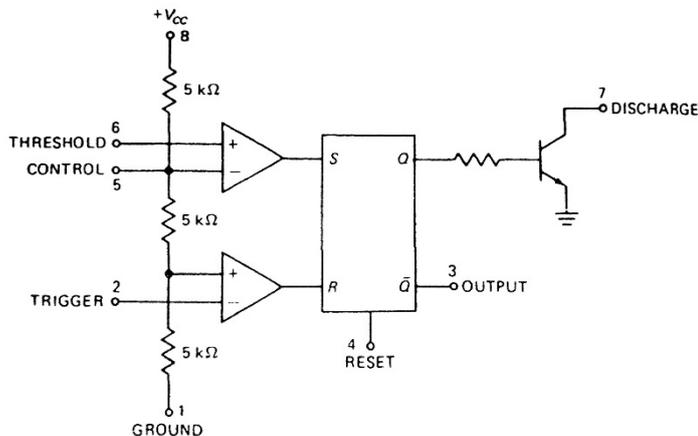

Figure 5.2. Block Diagram of 555 Timer
The NE555 timer introduced by Signetics is an 8-pin IC that can be connected to external components for either *astable* or *monostable* operation. Figure 5.2 shows a simplified block diagram. Notice the upper op-amp has a threshold input (pin 6) and a control input (pin 5). In most applications, the control input is not used, so that the control voltage equals $+2V_{CC}/3$ developed by the three $5\text{ k}\Omega$ voltage divider. As before, whenever the threshold voltage exceeds the control voltage, the high output from the op-amp will set the flip-flop.
1. To saturate the transistor of figure 5.2(a), the Q output must be _____ V.